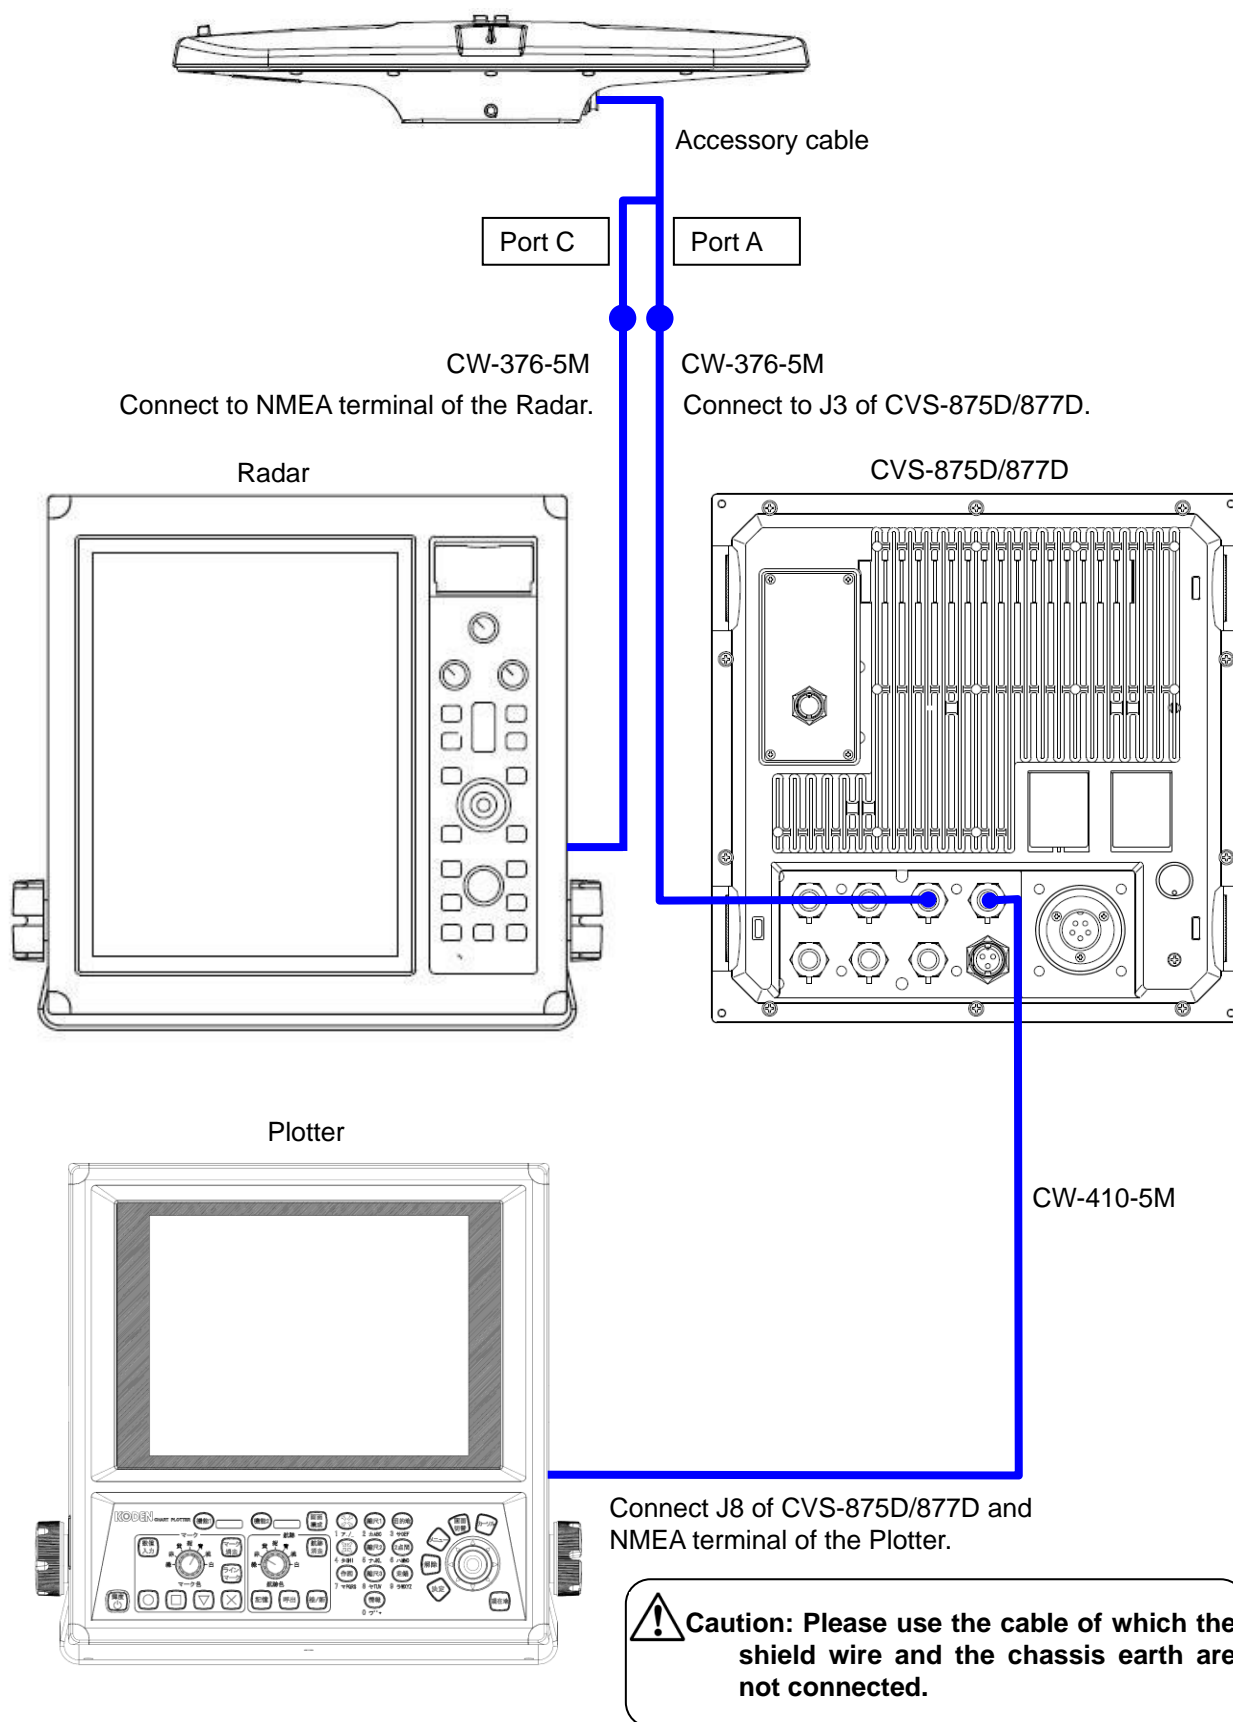
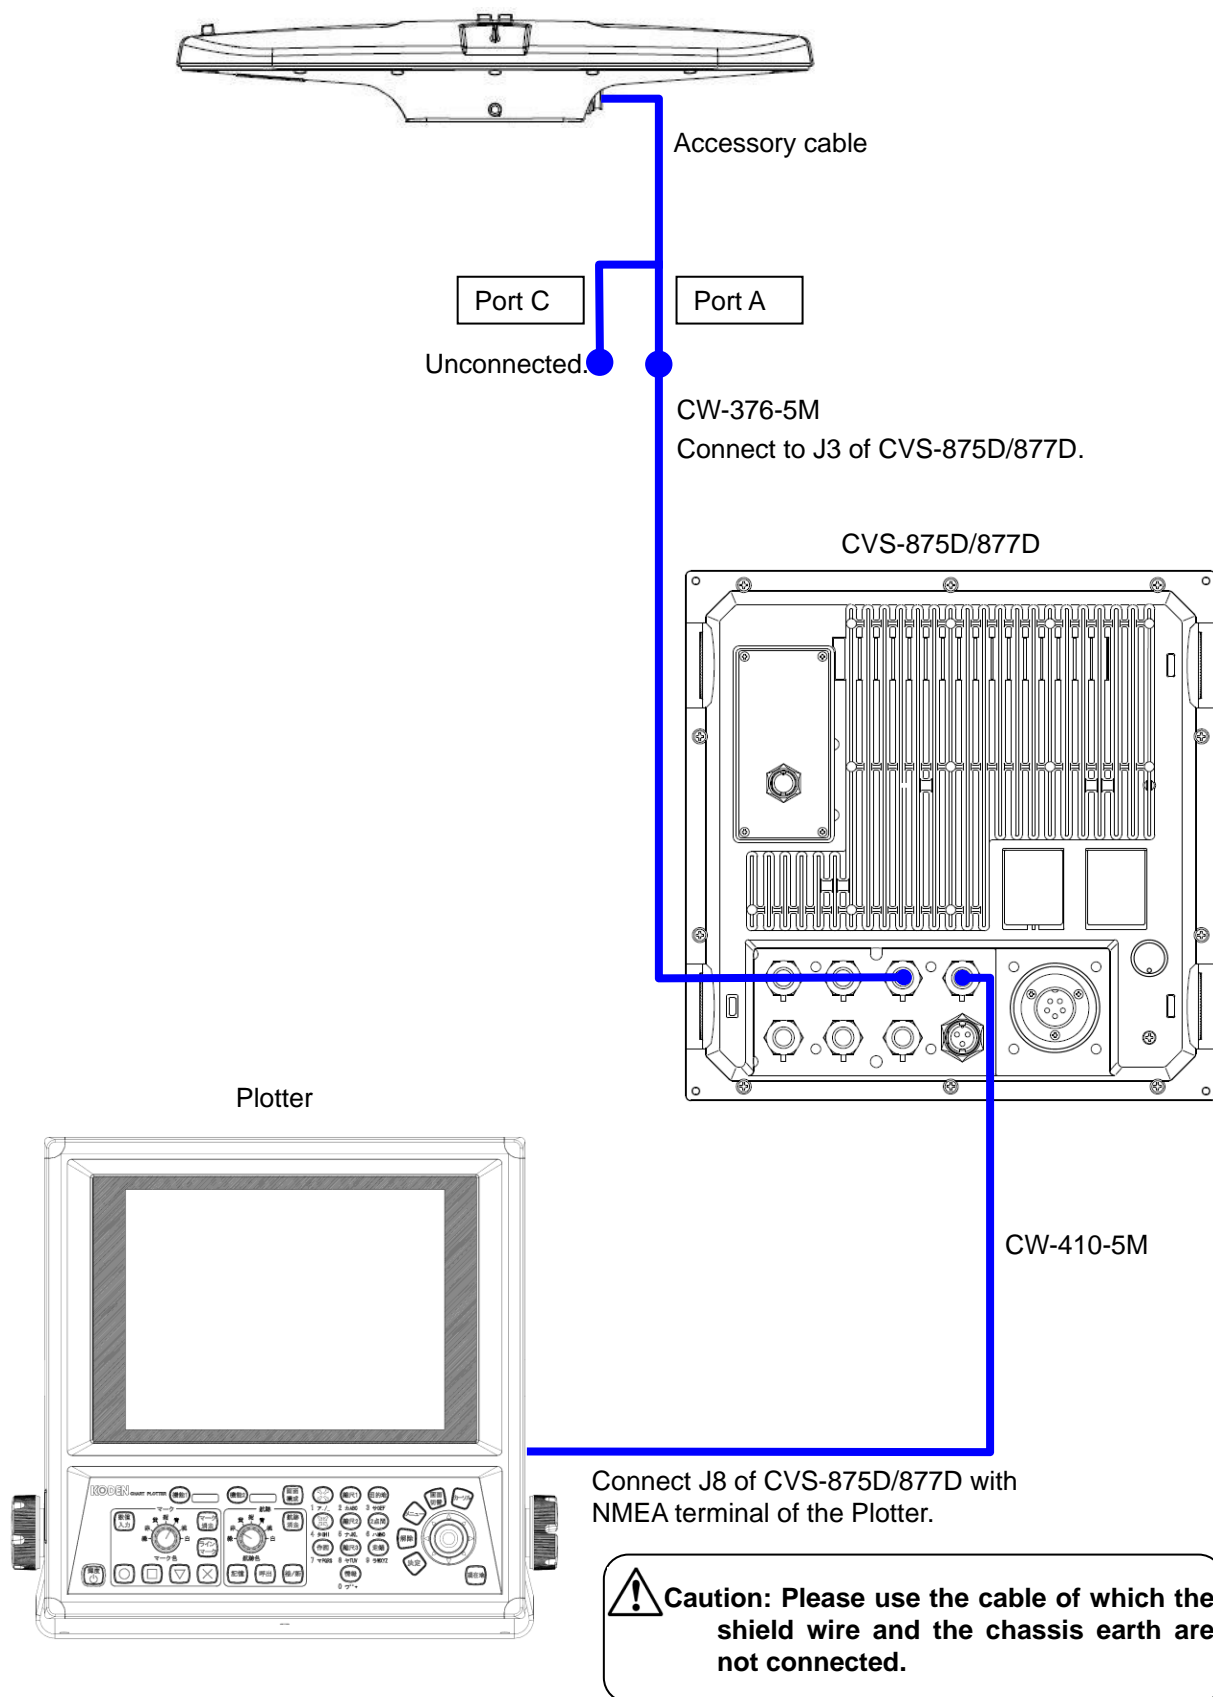

Fig. 1.64 The general connection chart 1
Fig. 1.66 The general connection chart 3
- 3) Connect CW-376-5M to NMEA terminal of Radar after soldering with Port C when connecting with Radar as GPS compass. Refer to **“Fig. 1.64 The general connection chart 1”**.
In the other cases, connection with Port C is not necessary. Refer to **“Fig. 1.66 The general connection chart 3”**.
- 4) Refer to **“Fig. 1.64 The general connection chart 1 to Fig. 1.66 The general connection chart 3”**, connect other equipment to communicate NMEA with the terminal J8 of CVS-875D/877D.